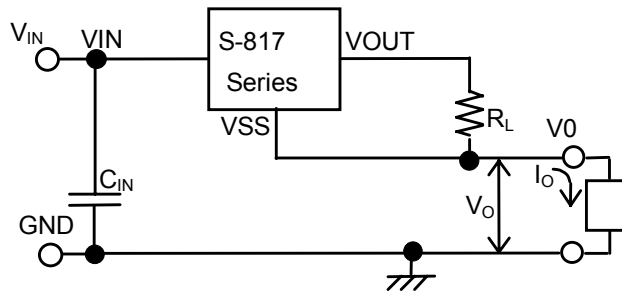

Figure 14
The S-817 Series can be configured as a constant current circuit. See Figure 14 & 15.
Please note that it is impossible to set constant amperage I_O in case of circuit (1) of Figure 14 to the value exceeding the drive ability of the S-817.